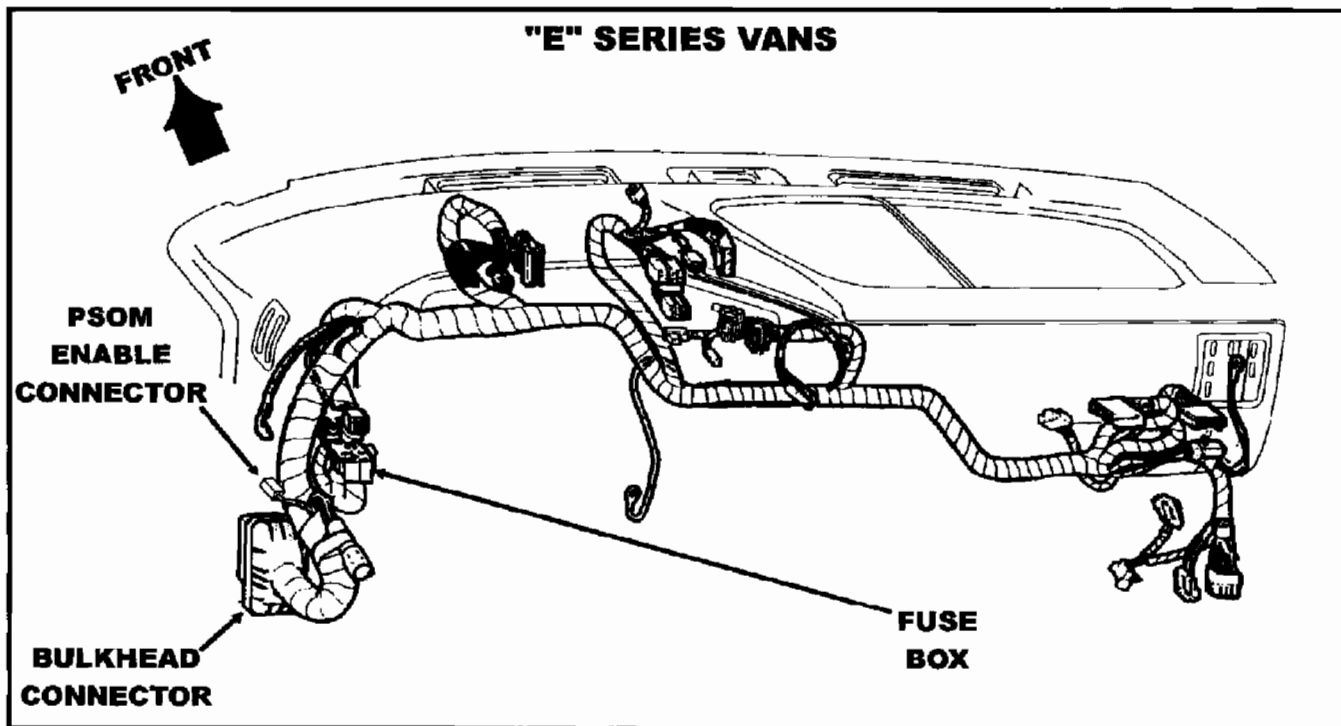

Figure 9
10. If the PSOM requires recalibration, the **LIGHT BLUE/YELLOW, CIRCUIT 567** wire at PSOM connector pin 9 is the PSOM enable circuit used to reprogram the PSOM. This LB/Y wire goes to the PSOM Enable Connector located under the left side of the dash below the fuse box near the bulkhead connector on "E" series vans (Refer to Figure 9) and under the center of the dash below the glove box on "F" series trucks. (Refer to Figure 10)